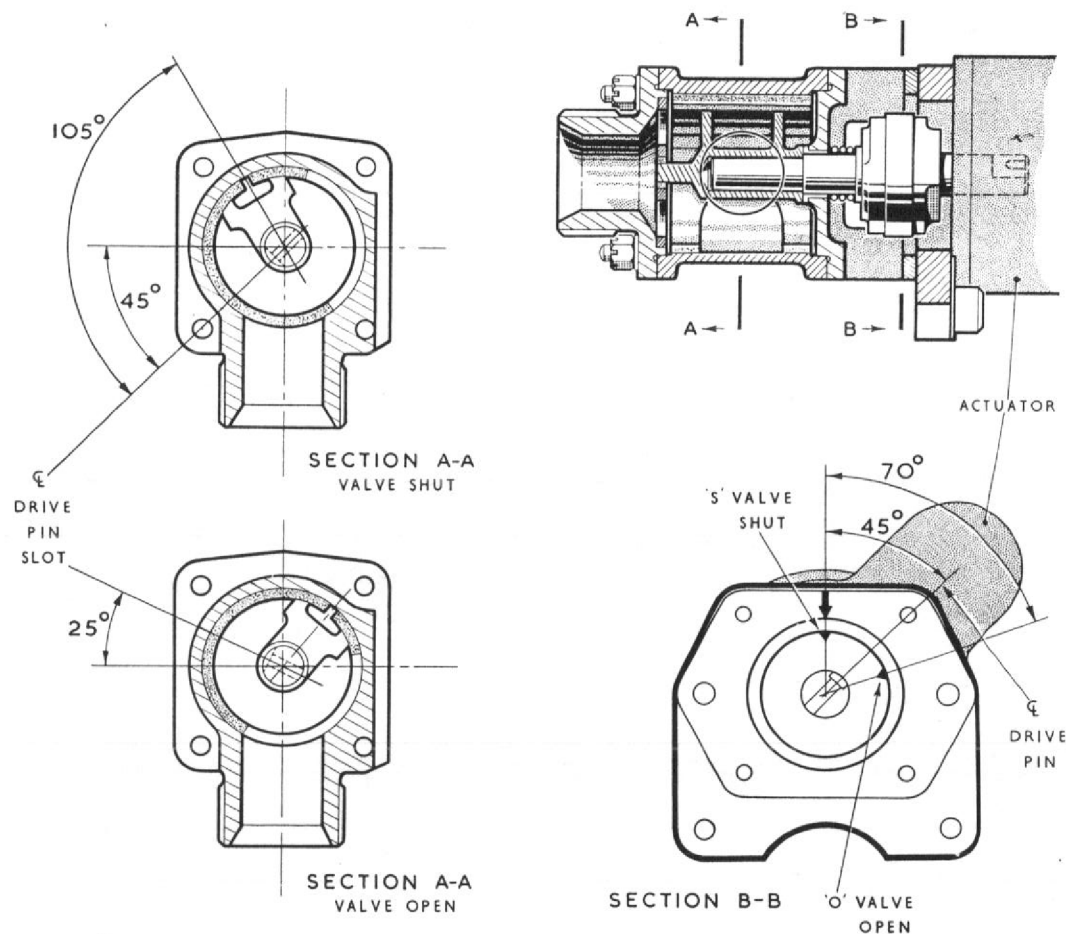

Fig.6 Hot air valve
hose which passes around and down the starboard face of frame 33, diagonally across the bottom of the fuselage, and extends forward to the hot air valve mounted on the forward face of frame 19 (fig.6). From the valve, a pipe line conducts the warm air to the rear of the gun. The operation of the electrical circuit controlling the installation is described in A.P.4347H, Vol.1, Book 2, Sect.5, Chap.1, Group G1.
**Hot air valve (fig.6)**